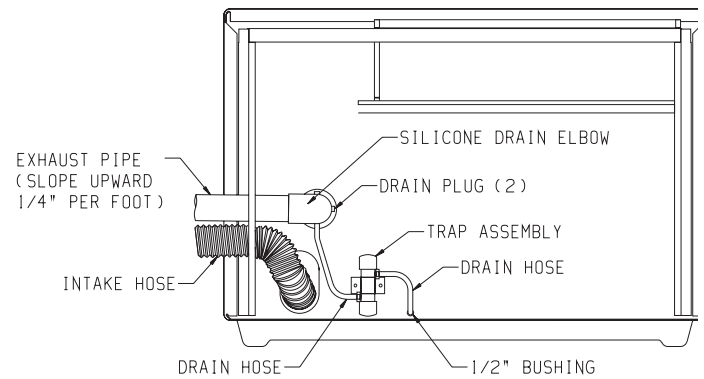

Figure 11
- In a horizontal vent run, if local codes prohibit condensate from draining to the outside and the appliance produces condensate, you must purchase condensate drain kit, part number DV-1108. See Figures 11 and 12.